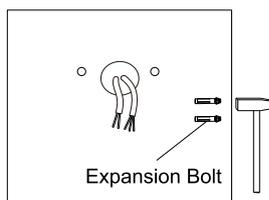

Figure 17
Step 2: Knock the expansion bolts into the wall.(Figure 17)